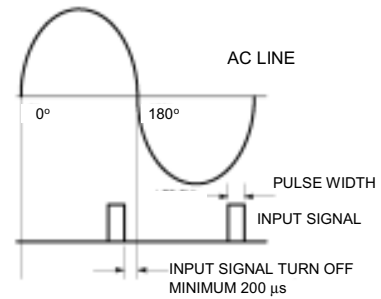

Figure 6 Minimum time for input pulse turn-off to zero cross of AC trailing edge
- When using the JGC-5F series in phase control applications, at a phase control angle close to 180 degrees the relay's input signal turn off at the trailing edge of the AC sine wave must be limited to end 200 μ s before AC zero cross as shown in Figure 6. This assures that the relay has time to switch off. Shorter times may cause loss of control at the following half cycle.